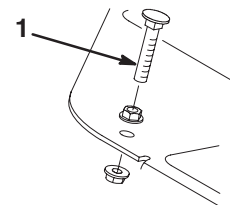

Figure 53
1. Press down on the traction pedal. If the pedal contacts the stop (Fig. 53) before tension is felt on the cable, an adjustment is required:
- A. Loosen flangehead locknuts securing the pedal stop to the floor plate (Fig. 53).